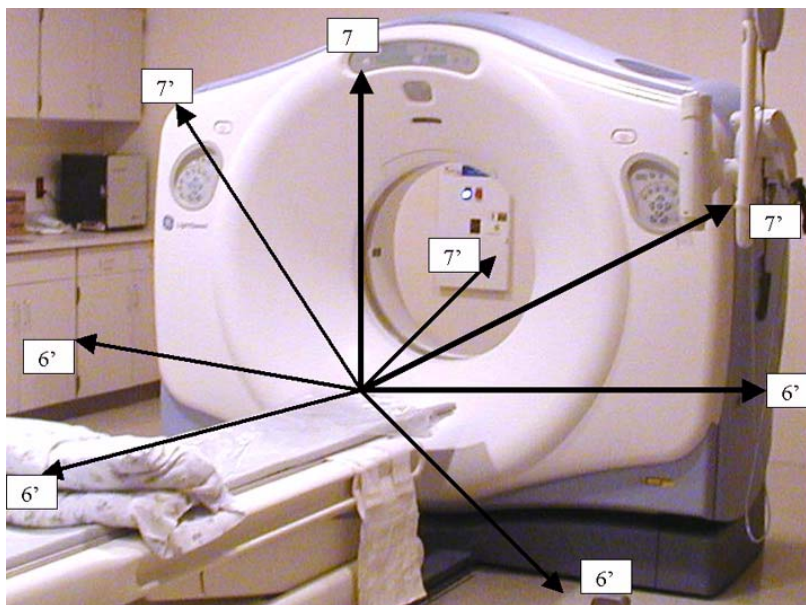

Figure 9-3 Measurement Points
- 10.) Complete testing between the system reference ground point (table base) to unit reference ground points (i.e. gantry and table, see Figure 9-3).